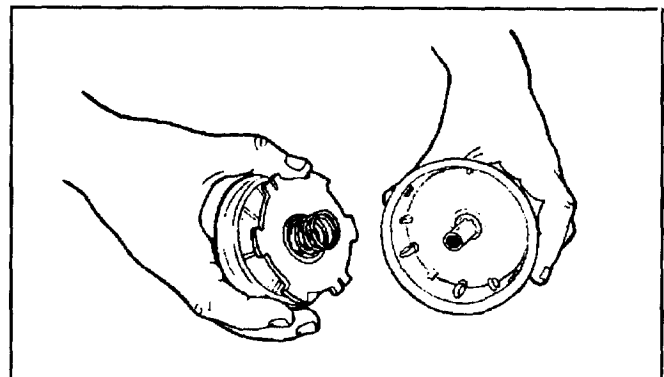

Fig. 12
3. Remove the inner reel (Fig. 12).